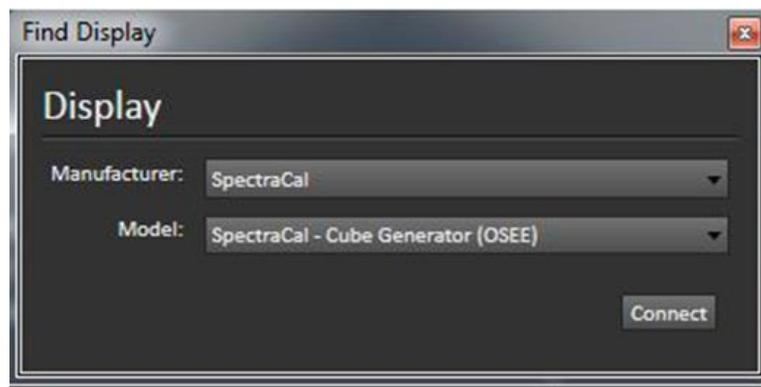

Figure 4. CalMAN Find Display dialog, for connecting to the Cube Generator function for 3D LUT creation.
2. On the *Find Display* dialog (Figure 4), under *Manufacturer*, select ‘SpectraCal.’